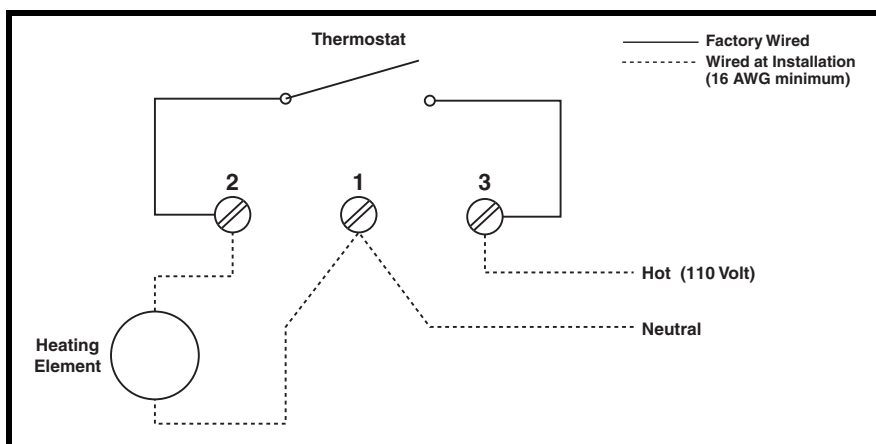

Figure 9. Solenoid Enclosure Heater Option Wiring Schematic
6. If air cleaner includes heater option, wire thermostat and heater as shown in Figure 9.